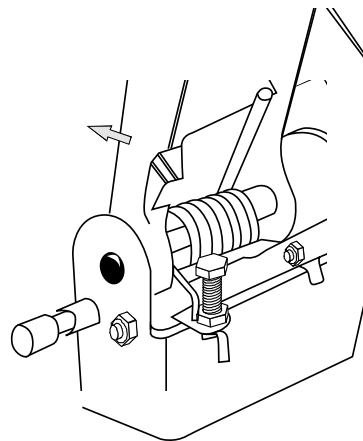

Figure 12
- Lower the swing arm as far as it will go. (Figure 12)